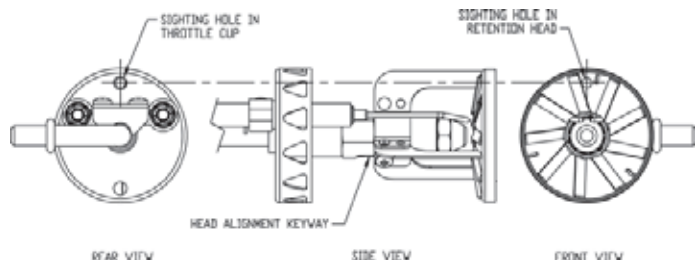

Figure 44: Retention Head/Throttle Cup Alignment
10. Check retention head alignment. Cad cell sighting holes in the throttle cup and retention head must line up, so the cad cell can see the flame. Make sure that the “stamped key” in the retention head collar lines up with the “keyway” in the nozzle adapter, when mounting the retention head. See Figure 44.